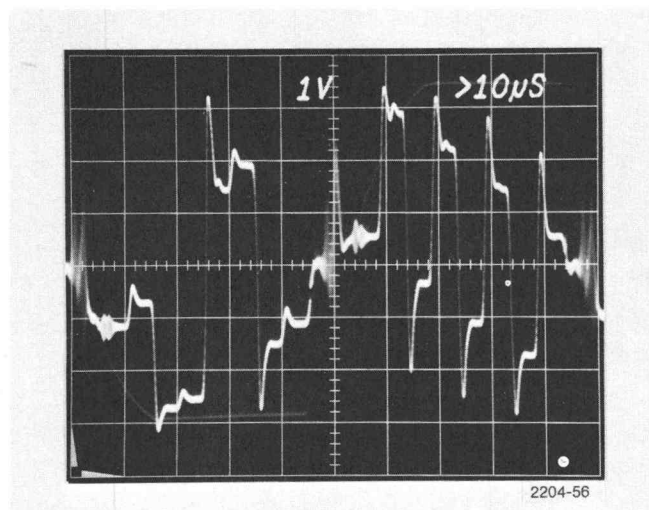

Fig. 6-9. White Levels on 2 adjacent lines.
d. CHECK—for 1 V difference in the white levels of two adjacent lines. See Fig. 6-9.